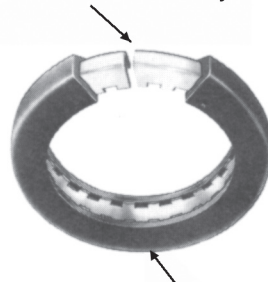

Figure 3
- Self-restrained gasket installation. To simplify installation of a self-restrained gasket, install lower gasket halfway onto the pipe first, leaving the split area in the steel retaining ring free at the top. See Figure 3. Then, stretch the gasket and split area of the retaining ring until they slip over the tube or pipe and into position. Refer to Figure 3.